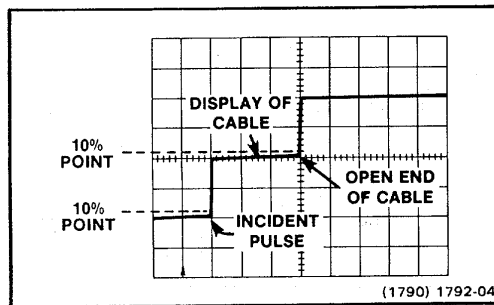

Figure 2-5. CRT Display of Pulse.
*Always set the incident and reflected pulse to the 10% points of their amplitude (see Fig. 2-5).*